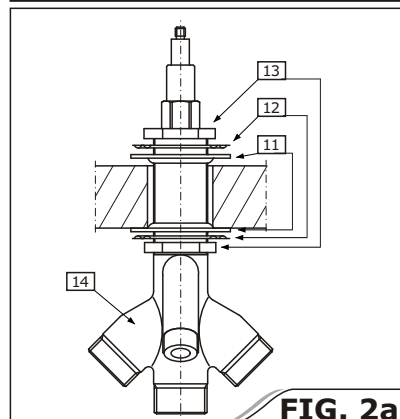

FIG. 2a
See fig. 2a and 2b
- 3) Place the washers **(12 and 13)** on to the valve from above in the order shown in fig. 2a and screw on the top nut **(11)**, but not too strongly.